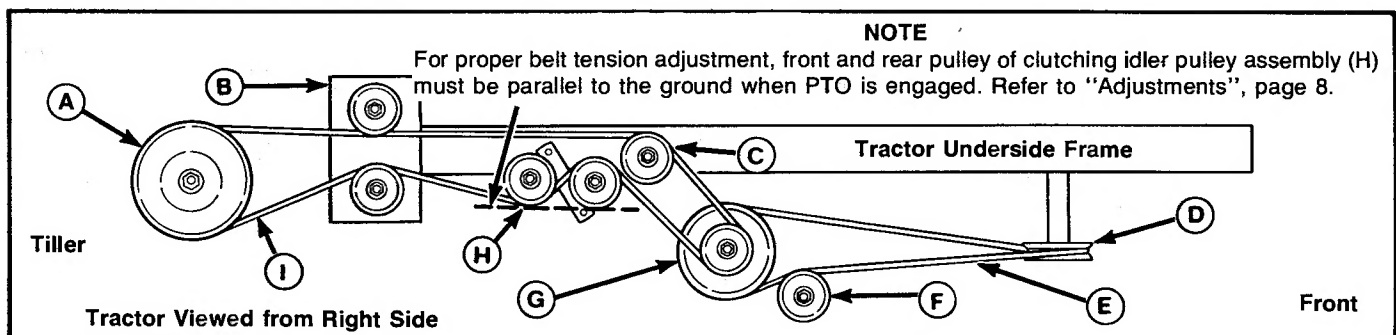
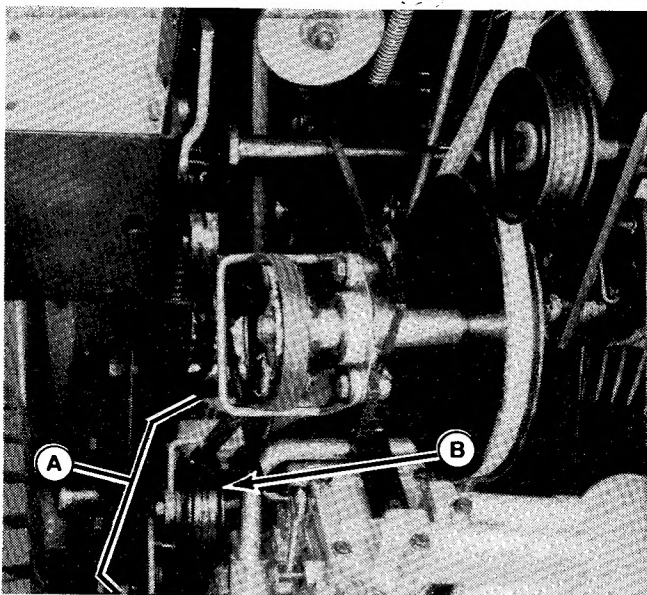
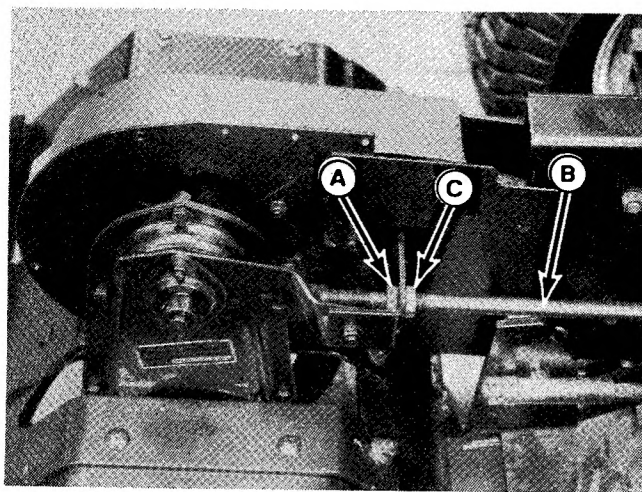

Figure 14.
Figure 15.
Figure 16.
13. Check position of belt pattern. Belts must be positioned on pulleys as shown in Figure 14.
3. From right underside of tractor, examine clutching idler pulley assembly (A, Figure 15). Front (flat sided) pulley (B) and rear (grooved) pulley should be parallel to ground. Refer to "NOTE", Figure 14.
4. If adjustment is required, loosen rear jamnut (A, Figure 16) on support rod (B). Standing at rear of tiller, turn front jamnut (C) clockwise (toward the ground) to raise the front pulley (B, Figure 15). Turn the jamnut counterclockwise to lower the front pulley. Retighten jamnuts.